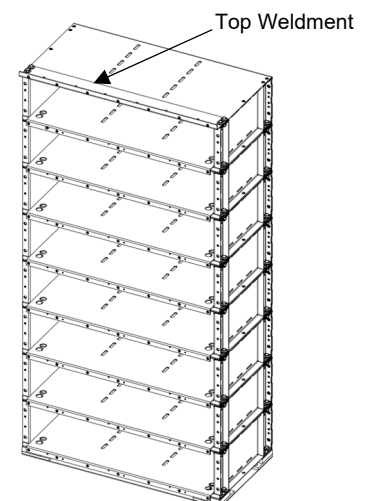

FIGURE 4b
4. Repeat STEP 3 for the remaining modules. The module on the pallet with the top bracket fastened in place can be moved into place without removing the top bracket; this module will be at the top of the assembled rack. See Figure 4b.